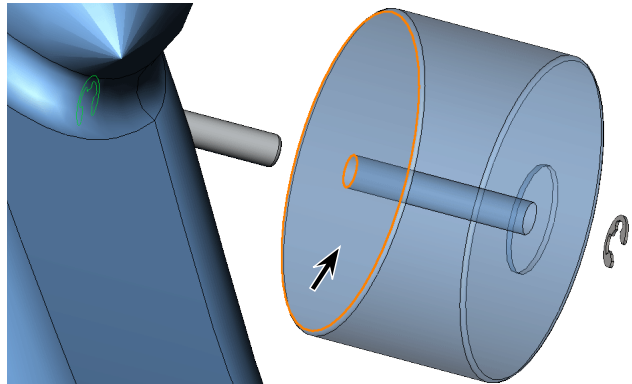

Fig. 30
Step 3. Use **Right arrow** key to rotate assembly to view side face of **inside face of Rear Wheel**, Fig. 30.
Step 4. Click **inside face of Rear Wheel**, Fig. 30.